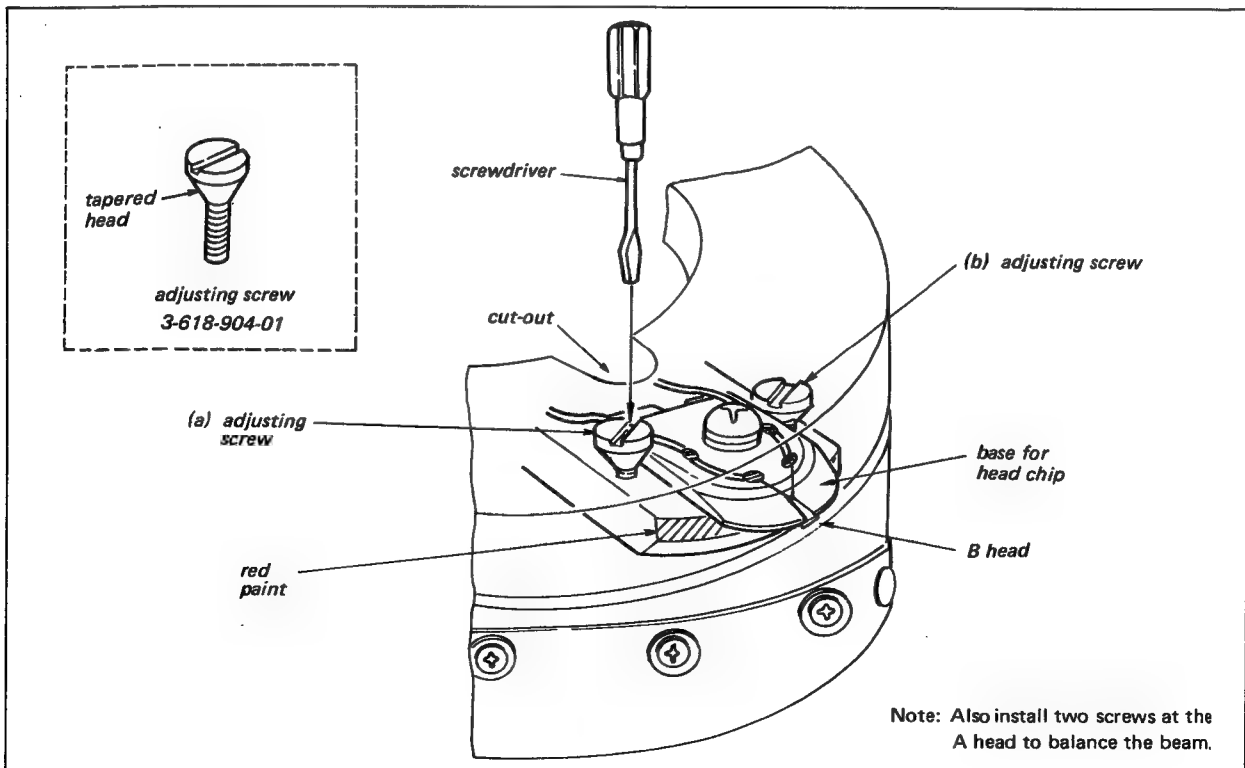

Fig. 4-7b. Video head dihedral adjustment
This adjustment requires the use of the SONY Alignment Tape and the four adjusting screws shown in Fig. 4-7b. The adjusting screw has a tapered head which bears against the base of the head when turned clockwise, thus forcing the head to move laterally. The thread of this screw is different from that of any other conventional screw.
5. Position the B head so that the threaded adjusting-screw holes are accessible through the cut-out in the upper head drum. See Fig. 4-7b.
10. First, loosen the (a) adjusting screw about a quarter turn counterclockwise and tighten the (b) adjusting screw a quarter turn clockwise. See Fig. 4-7b.